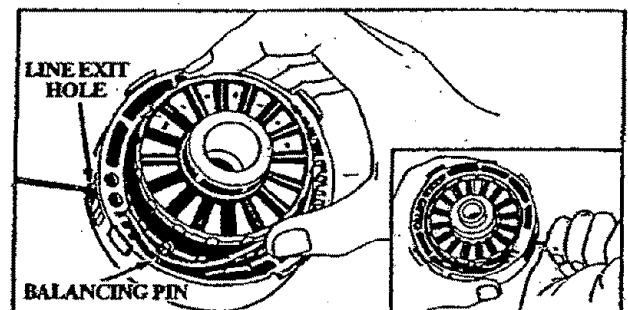

Figure 21
- Insert about 6 inches of Line from the inside of the Hub through the Line Exit Hole to the outside to keep the Line from backing into the head. Figure 21.
- Route the Line behind the Balancing Pin (Figure 21) while carefully placing the Spool in the Hub.
- Pull on the Line extending outside the Hub to make sure the Line will not advance. See Inset, Figure 21. This indicates that the Line is routed properly.
- Pull on the Line again from outside the Hub. If the Line can be pulled from the assembled head, it is not properly routed around the Balancing Pin and will feed continuously when the Trimmer Head turns. Remove Cover and re-route Line as shown in Figure 21.